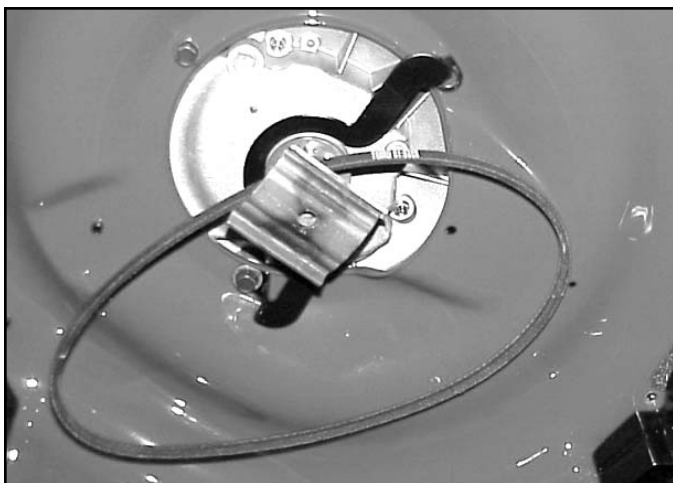

Fig 060
5. Slip the belt out of the crankshaft pulley and over the blade (Fig. 060).